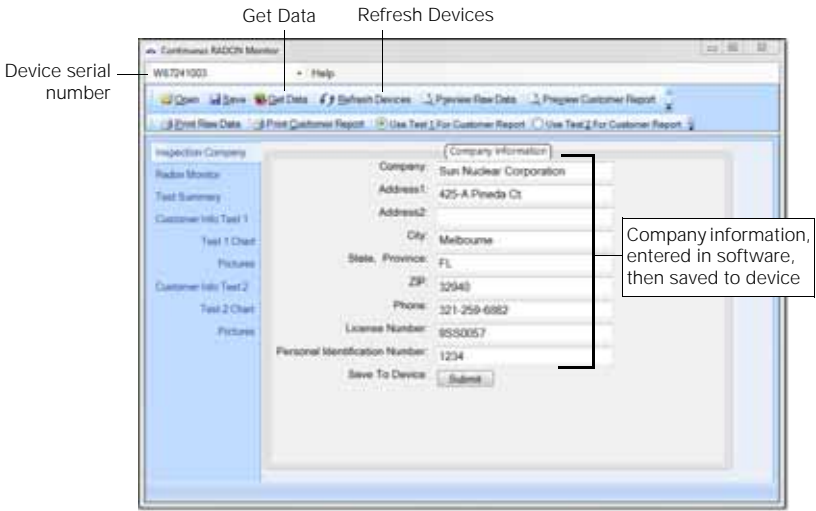

Figure 12. Continuous RADON Monitor Main Screen
- 1 Connect the Radon Sentinel to the computer and launch the Continuous RADON Monitor software. The serial number of the device appears in the text box above the toolbar when the monitor is detected (Figure 12)
- 3 The software retrieves the data from the Radon Sentinel (Figure 12).